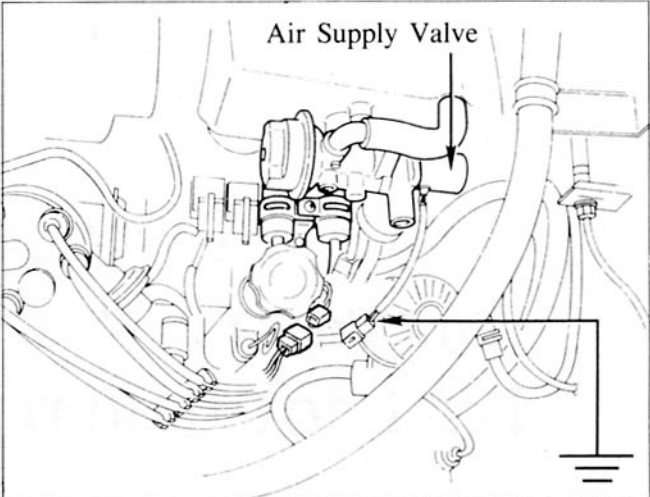

Figure 6
7. Use a jumper wire to ground the LW wire for the air supply valve as shown. Confirm that the engine speed increases to 1000–1070 rpm. (Figure 6)